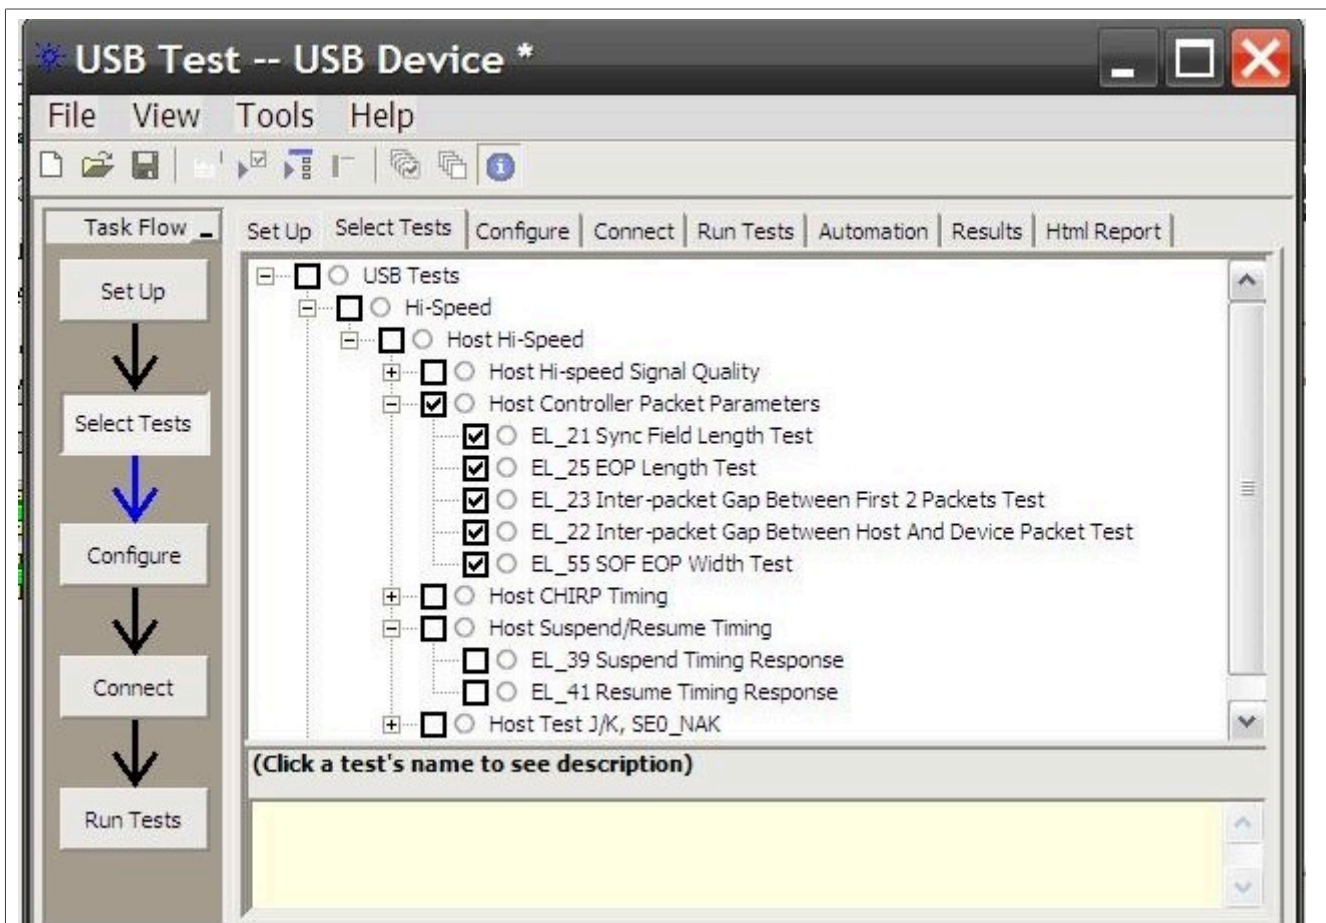

Figure 67. Host HS Packet Parameters Test
1. Select the test items in the USB Automated Test Software on Oscilloscope as shown in Figure 67 below, and make sure you set the Test Type configuration option to “Hi-Speed Near End” before running the test.